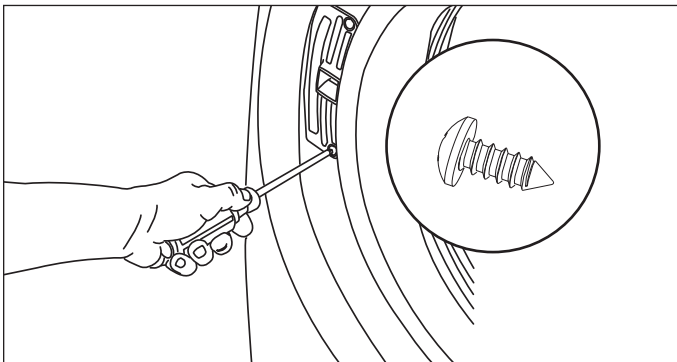

Figure 2-29.
4. Secure the lock with 2 short, coarse-thread, panhead screws. (See Figure 2-29)